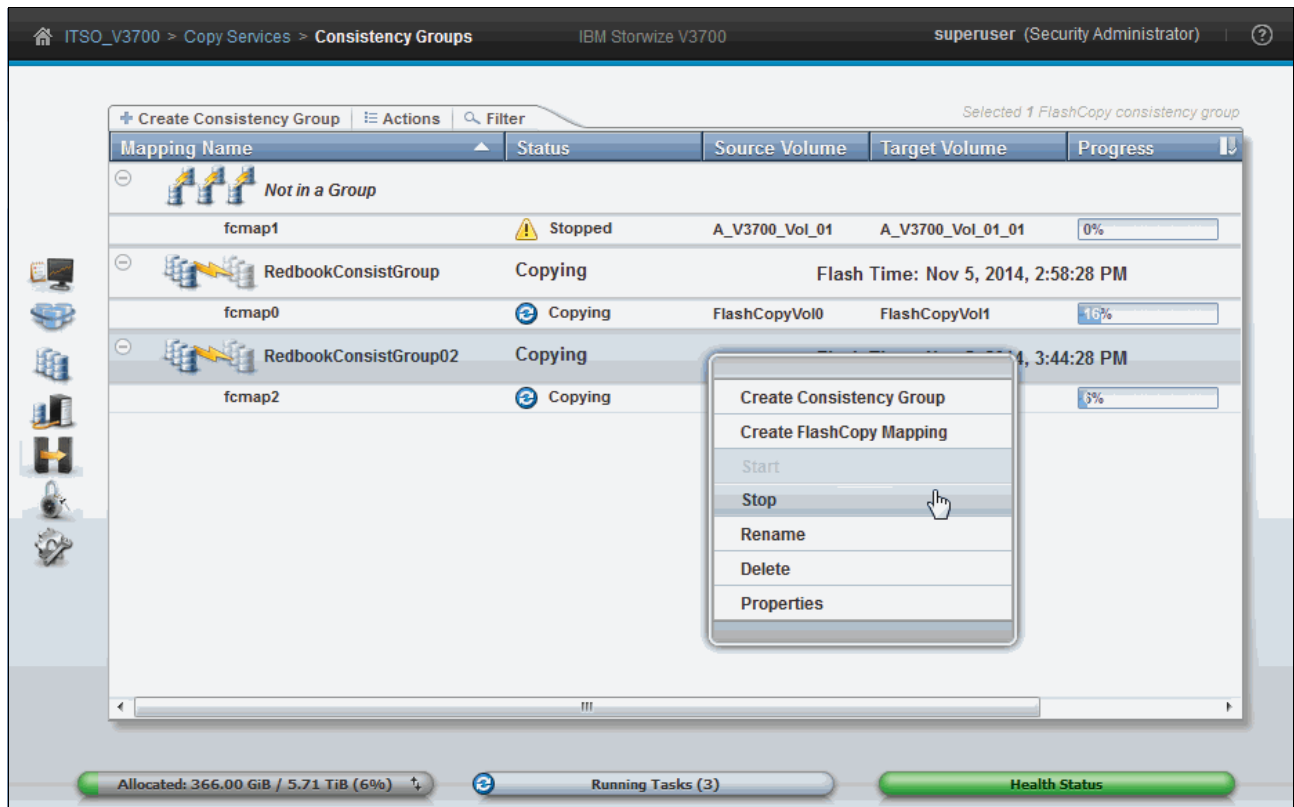

Figure 10-61 Stop a consistency group
1. Select **Stop** from the **Actions** menu or right-click, as shown in Figure 10-61.